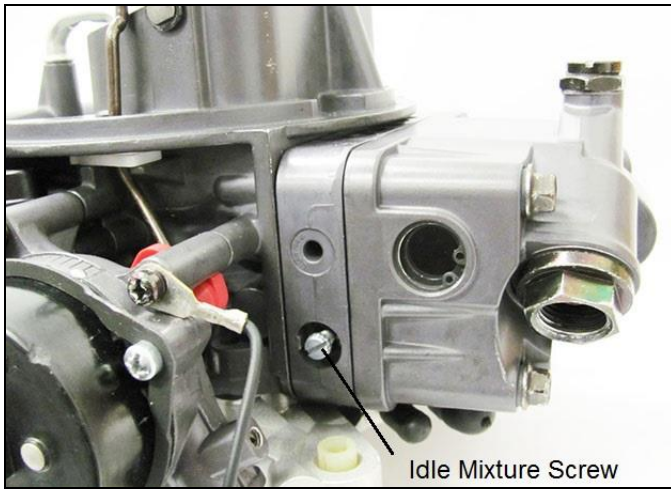

Figure 5
2. Adjust each idle mixture screw (**Figures 5 & 6**) 1/8 turn at a time, alternating between each screw. Turn them equally, until you achieve the highest possible vacuum reading without adjusting the curb idle speed screw. Turn screws in to decrease the idle fuel mixture. Turn them out to increase the idle fuel mixture.